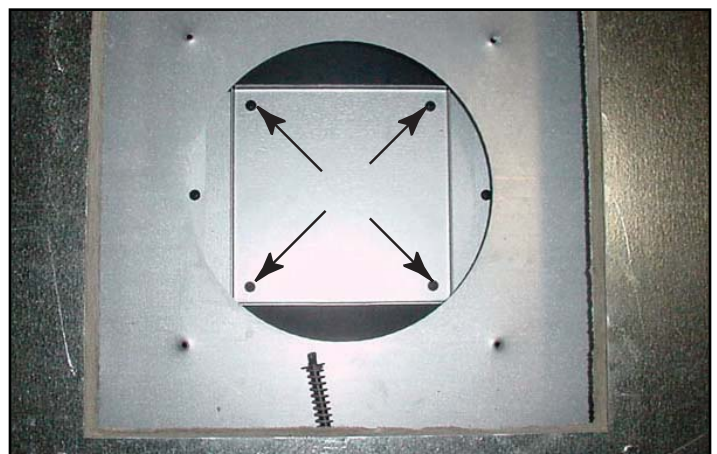

Figure 7.10 Attach Inner Cover Plate
- Place inner cover plate on appliance top and replace four screws to hold inner cover plate in place. See Figure 7.10.